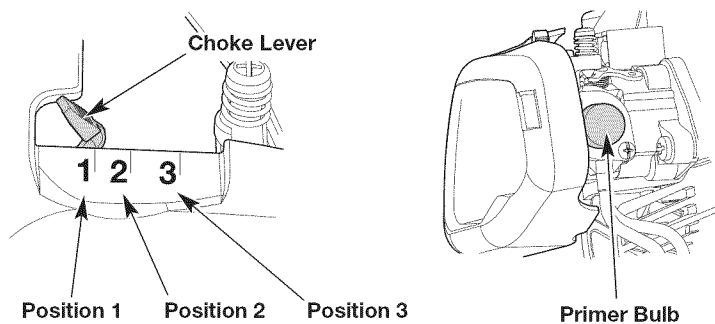

Fig. 4
3. Slowly press and release the primer bulb **10 times** (Fig. 4). If fuel cannot be seen in the primer bulb, press and release the primer bulb until fuel is visible.
4. Move the choke lever to **Position 1** (Fig. 4).
7. Continue to squeeze the throttle control. Move the choke lever to **Position 2** (Fig. 4).
10. Continue to squeeze the throttle control. Move the choke lever to **Position 3** (Fig. 4) and continue warming the engine for an additional 60 seconds. The unit may be used during this time.
**IF...** the engine hesitates, return the choke lever to **Position 2** (Fig. 4) and continue the warm-up.